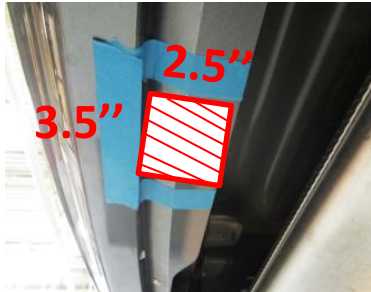

Figure 6
- Fascia trimming and reinstallation** – Mark the center line on the fascia and trim the area on fascia as shown in **Figure 6**. Reinstall all fasteners, wirings, and fascia removed in step 1. After the fascia have been reinstalled gently bend the fascia mounting tabs as needed to align with the fascia.
6. **Fascia trimming and reinstallation** - mark the center line on the fascia and trim the area on fascia as shown in **Figure 6**. Reinstall all fasteners, wirings, exhaust hanger, and fascia removed in step 1,2.